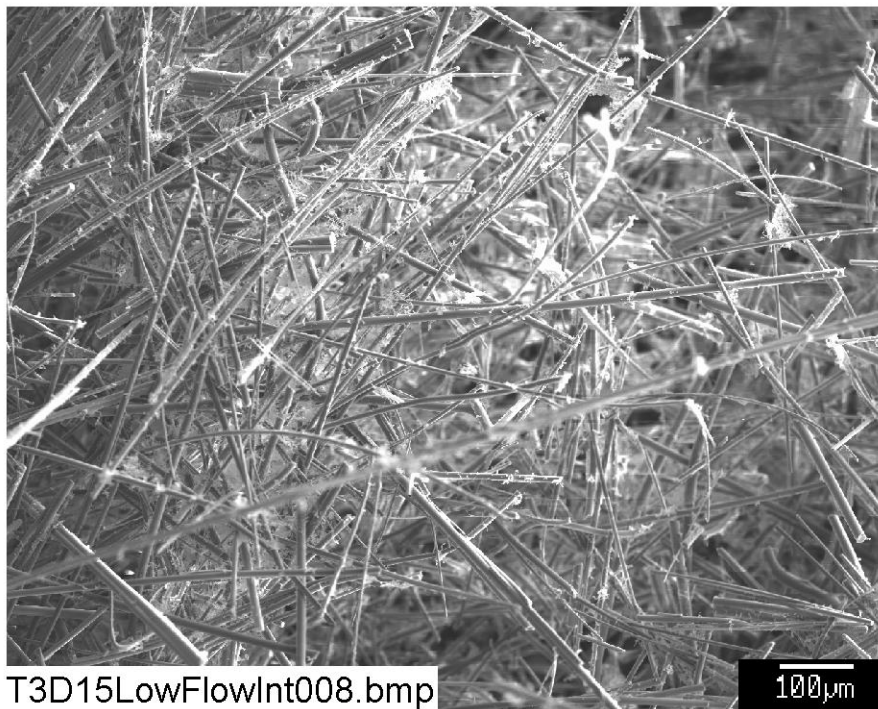

Figure B2-8. SEM image magnified 100 times for a Test #3, Day-15 low-flow interior fiberglass sample. (T3D15LowFlowInt008)
- Figure B2-8. SEM image magnified 100 times for a Test #3, Day-15 low-flow interior fiberglass sample. (T3D15LowFlowInt008) B2-8